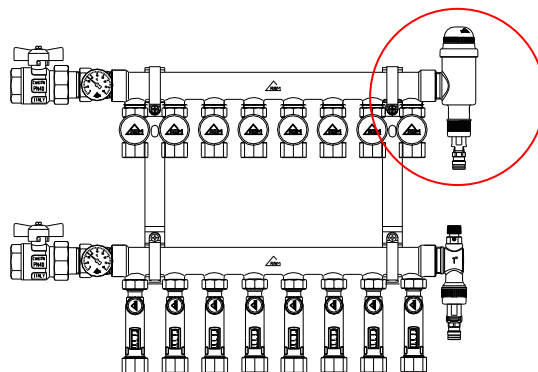

Fig. 2
**Note:** in horizontal systems (fig. 2) Vasa can be replaced by VasaTre in order to simplify the layout by reducing the number of products used.